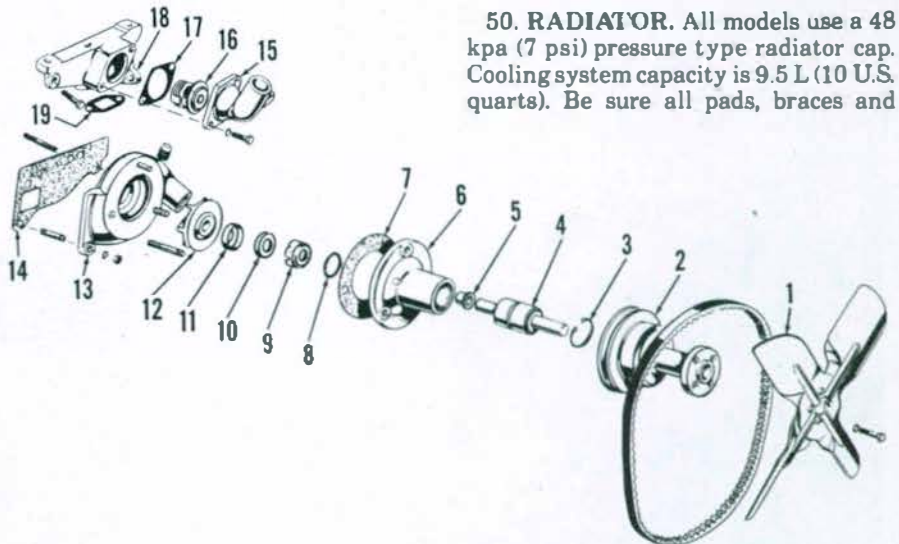
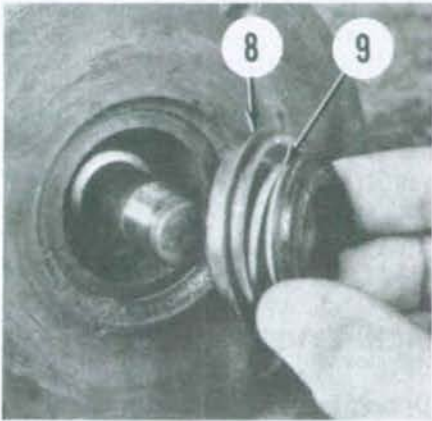
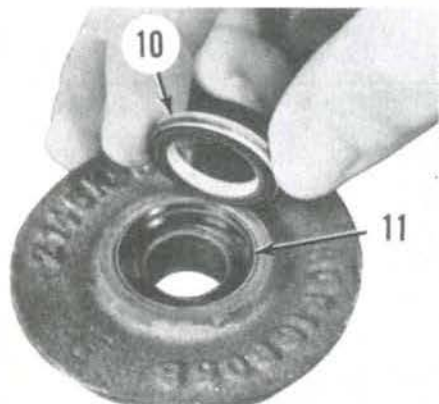

Fig. 51—Exploded view of water pump assembly used on gasoline models.
Fig. 52—The gasket (8) should be in position around seal as shown when installing the spring seal (9).
Fig. 53—Install the ceramic collar (10) into rubber retainer (11) with the three holes in collar toward the impeller.
Remove pulley (2—Fig. 51) using a puller attached to fan mounting hub. Remove snap ring (3), then press shaft and bearing (4) toward front out of impeller (12) and pump body (6).
To assemble, install slinger (5) onto short end of shaft (4), then press the shaft and bearing assembly into body (6) until bearing bottoms in bore. Install snapring (3). Coat outside of seal (9) with sealing compound, position gasket (8) around seal, then install in housing with carbon face toward impeller as shown in Fig. 52. Install the rubber collar retainer (11—Fig. 51) in bore of impeller (12), then insert ceramic collar (10) as shown in Fig. 53. Be sure side with three holes is toward impeller. Press impeller onto shaft with open side of blades out until